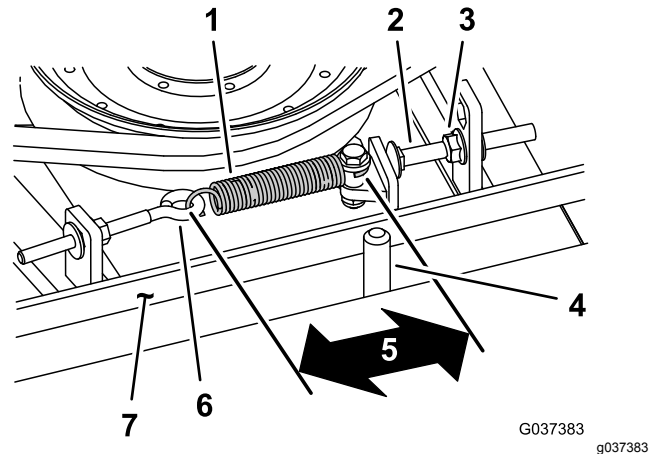

Figure 77
When properly tensioned, the inside measurement of the extension spring (hook to hook) should be approximately 8.3 to 9.5 cm (3-1/4 to 3-3/4 inches). Once the correct spring tension is attained, adjust the stop bolt (carriage bolt) until there is approximately 2 to 5 mm (0.065 to 0.185 inch) clearance between the head of the bolt and the idler arm (Figure 77).
Note: Ensure that the belt is positioned on the spring side of the belt guide (Figure 77).
2. Loosen the eye bolt allowing the removal of the extension spring (Figure 77).
- Loosen the flange nut securing the stop bolt to the mounting tab and move the idler pulley away from the belt to release the belt tension (Figure 77).
- Connect the extension spring (Figure 77) to the eye bolt and tension the belt as follows: